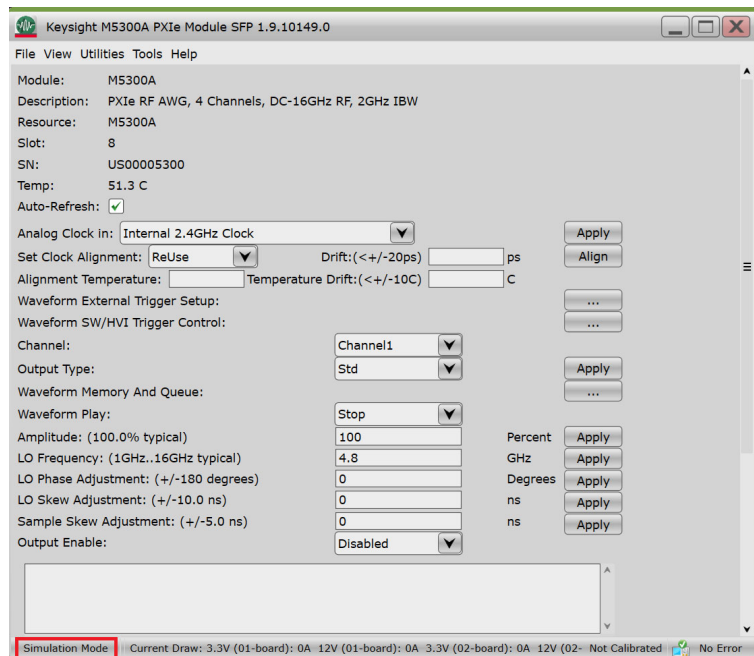

Figure 32 “Simulation Mode” in the status bar on the main window
- ‘Simulation mode’ enabled—This is the default mode of SFP operation. The **Simulation Mode** check box is selected by default and the **Simulate** button is displayed on the window. This mode is used for offline SFP operations. In this mode, even if you select an active module (which is connected to a chassis in powered on state), toggling the SFP controls does not affect the signal state on the module. The status bar on the main window shows ‘Simulation Mode’, as shown in Figure 32.